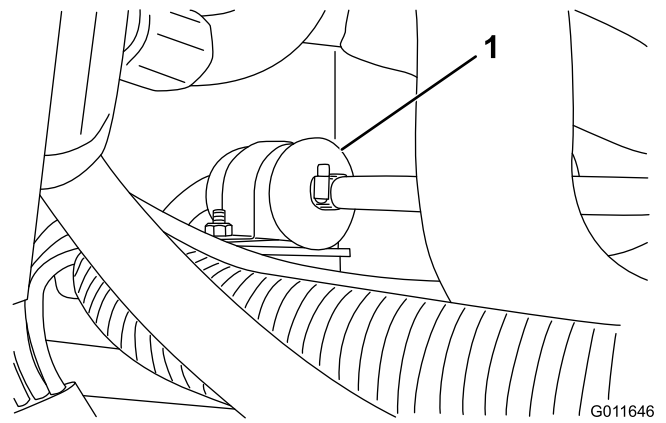

Figure 50
2. Loosen the hose clamps at both ends of the filter and pull fuel lines off filter (Figure 50).